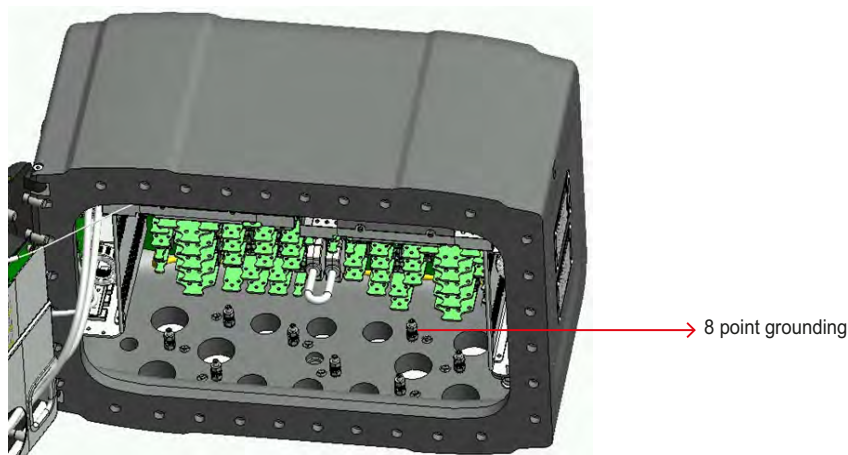

FIGURE 2-2
WARNING! *Make sure that the housing of the MSC-L is properly bounded to the Protective Earth (PE). See FIGURE 2-1 for external grounding of the MSC-L and FIGURE 2-2 for bonding any AC mains wire.*